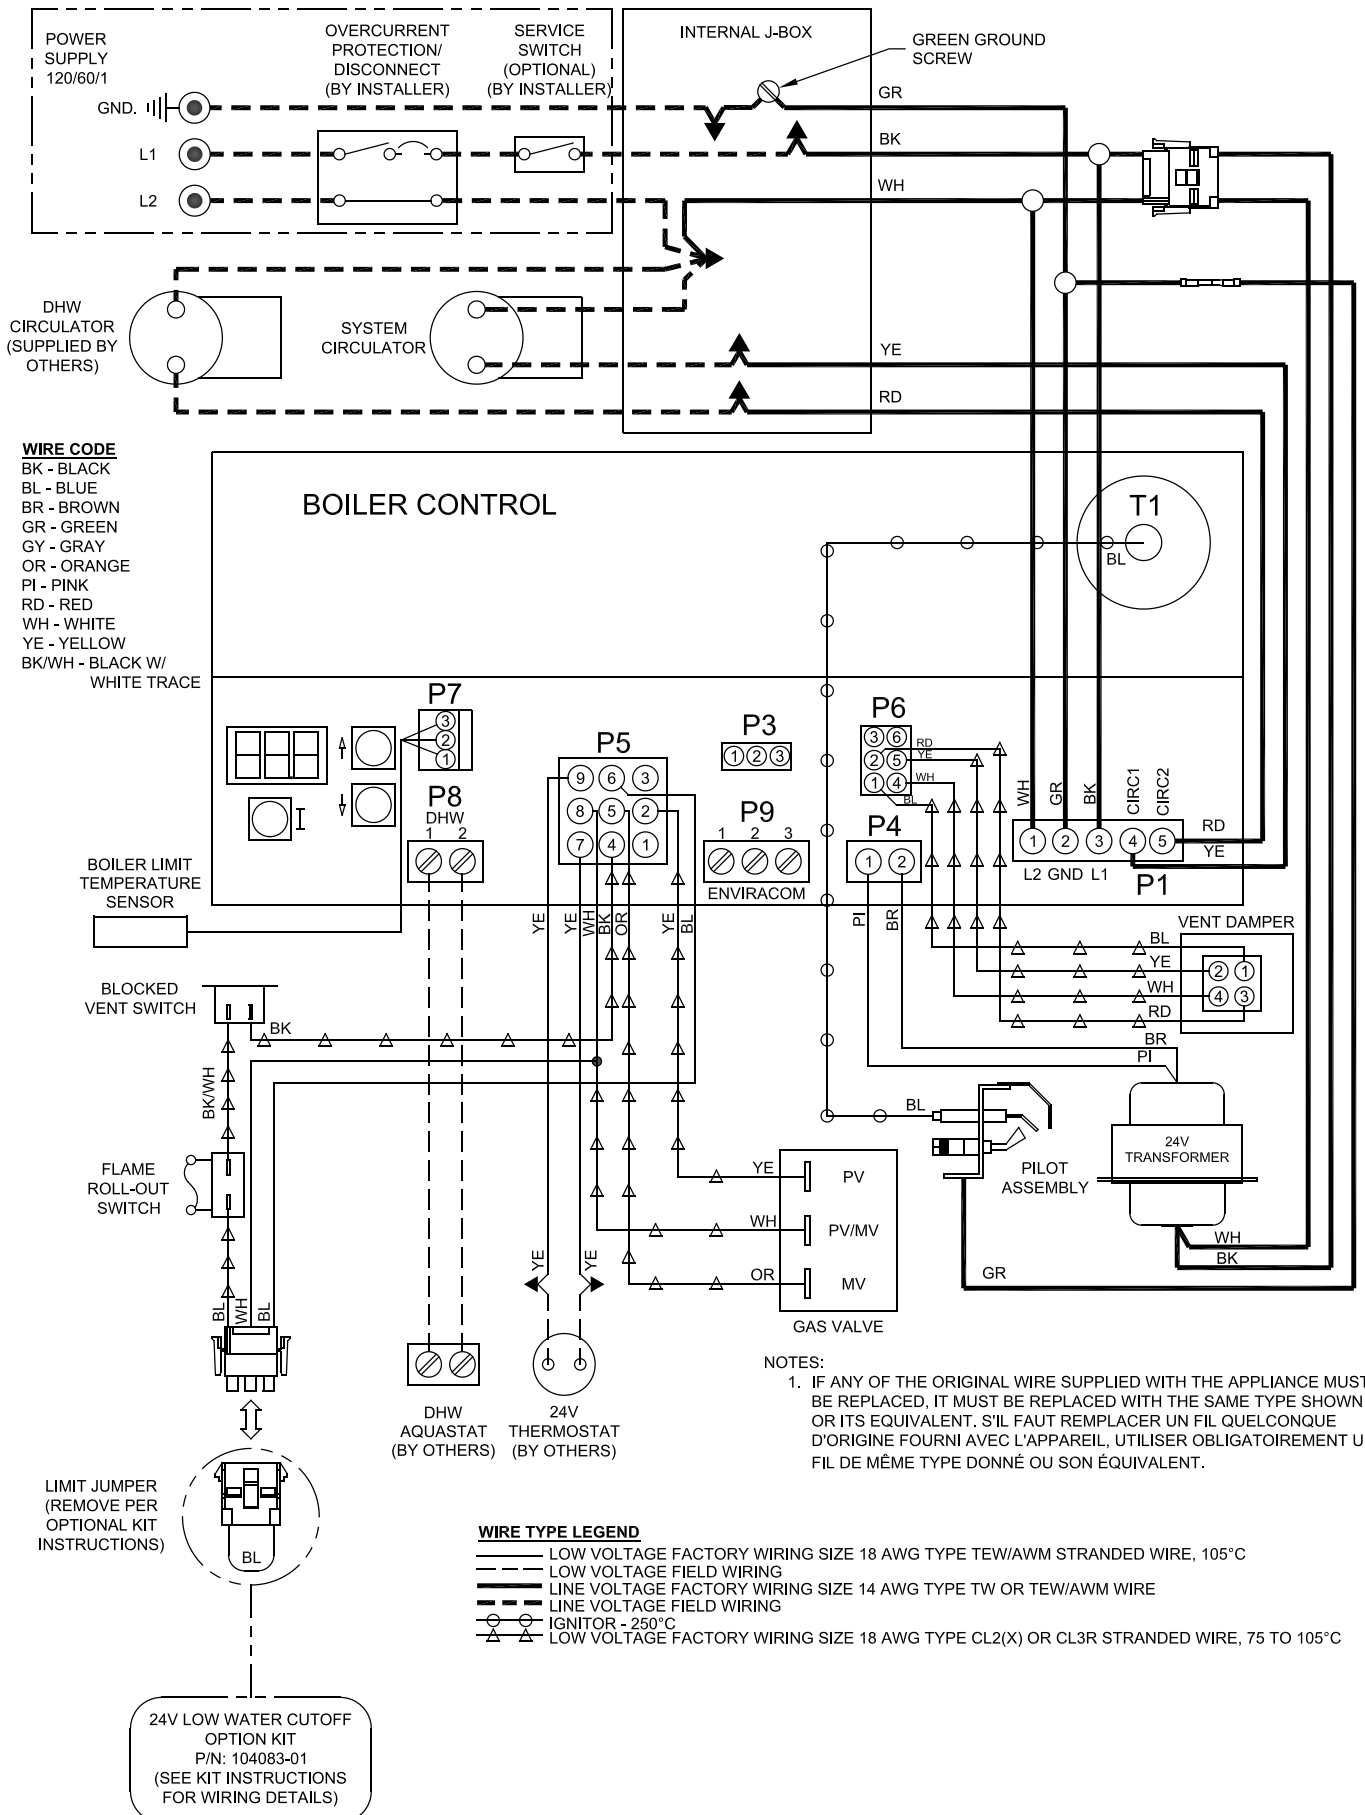

Figure 11: Wiring Schematic, Boiler Control
- D. New Yorker Link SL™ indirect water heater (if used).** See Figures 11 and 12. Also refer to the New Yorker Link SL™ *Indirect Water Heater Installation, Operating and Service Instructions*.
- F. Wire boiler.** Boiler is rated for 120 VAC, 60 hertz, less than 15 amperes. A separate electrical circuit must be run from the main electrical service with an over-current device/disconnect in the circuit. A service switch is recommended and may be required by some local jurisdictions. Connect to black and white wires and green ground screw. See Figures 11 and 12.